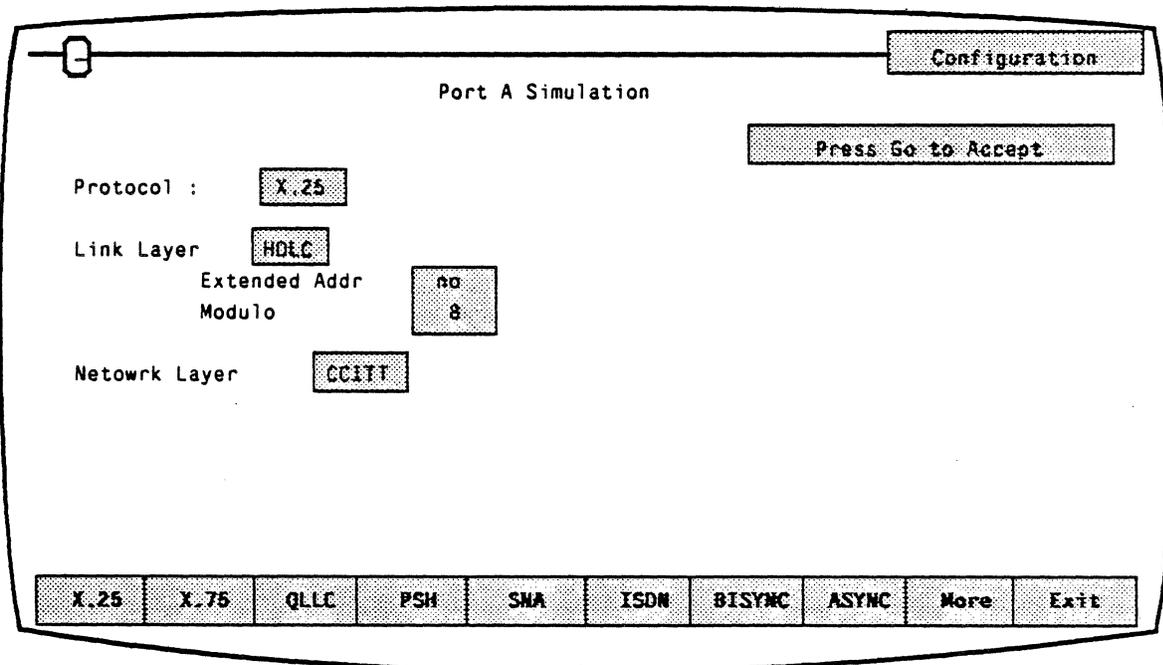

Figure 2.1-2: Chameleon Protocol Setup Menu
5. Press **F6 Setup** to display the menu of available protocols (Figure 2.1-2).